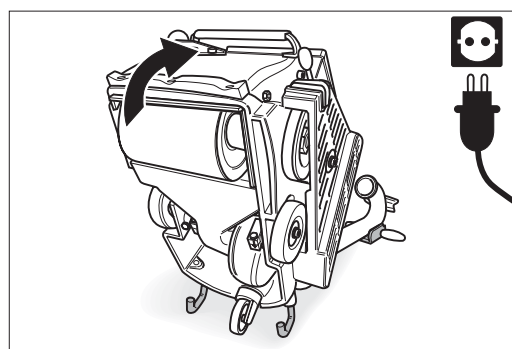

Fig. 34 To check the machine setting, tilt the machine backwards. **Ensure that the machine is standing securely!**
- 2 Tilt the machine backwards over the safety guards so that you can see the wheel bearings (Fig. 34). **Ensure that the machine is standing securely!**
- 3 Tilt the machine backwards over the safety guards so that you can see the wheel bearings (Fig. 34). **Ensure that the machine is standing securely!**
- 2 Tilt the machine back over the safety guard (Fig. 34). **Ensure that the machine is standing securely!**